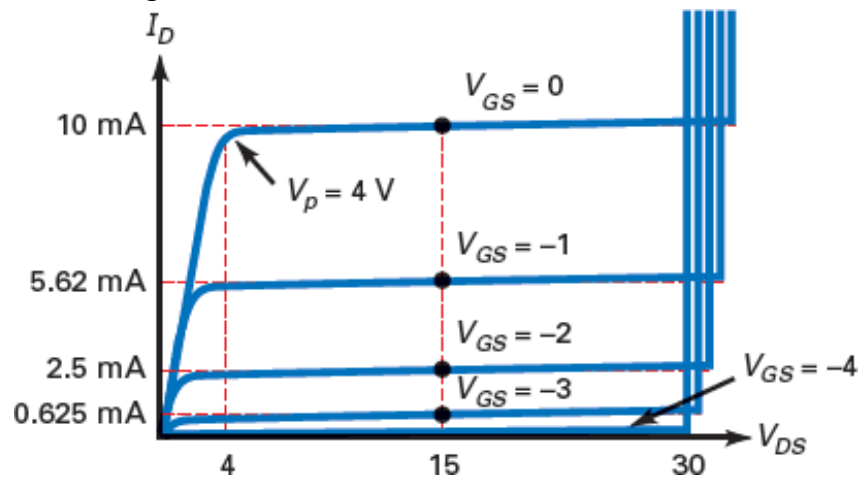

Figure-5 Drain Curves
- In Figure-5, the pinch-off voltage separates two major operating regions of the JFET. The almost-horizontal region is the active region. The almost-vertical part of the drain curve below pinch-off is called the ohmic region.
- R_{DS} is called the ohmic resistance of the JFET. In Figure-5, $V_P = 4 \text{ V}$ and $I_{DSS} = 10 \text{ mA}$. Therefore, the ohmic resistance is:
- Figure-5 shows the drain curves for a JFET with an I_{DSS} of 10 mA .
- In Figure-5, notice that $V_{GS(off)} = -4$ V and $V_P = 4$ V
- The transconductance curve of a JFET is a graph of I_D versus V_{GS} . By reading the values of I_D and V_{GS} of each drain curve in Figure-5, we can plot the curve of Figure-6a. Notice that the curve is nonlinear because the current increases faster when V_{GS} approaches zero.